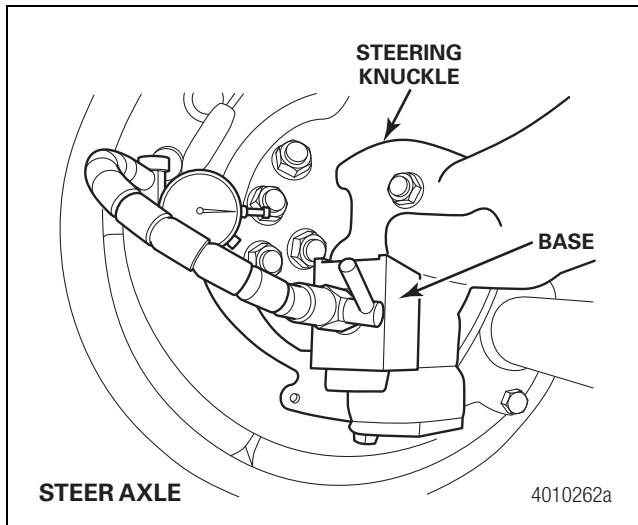
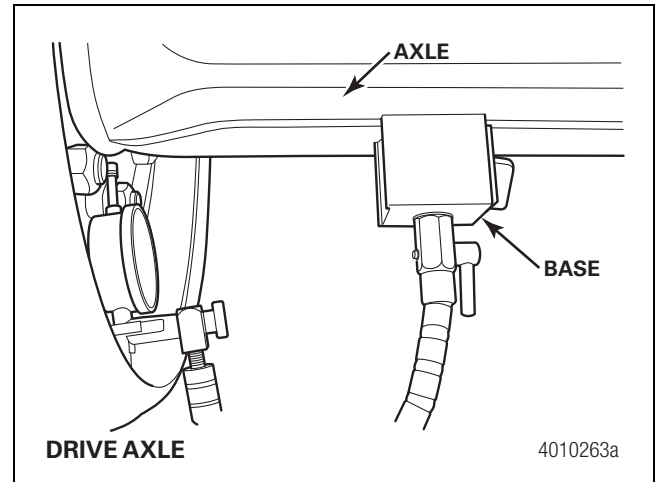

Figure 6.18
Figure 6.19
- **If there is movement in the base:** Relocate it to a more secure position. In some vehicle configurations, a lateral runout gauge or small style dial indicator may be required in order to obtain correct clearance. Figure 6.18 and Figure 6.19.